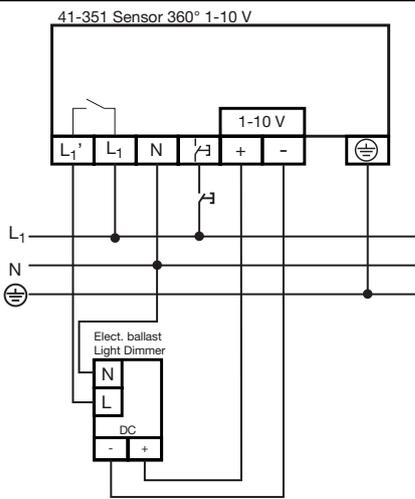

Fig. 5
3. Set and test the 360° 1-10 V presence detector as shown in **Fig. 5**.